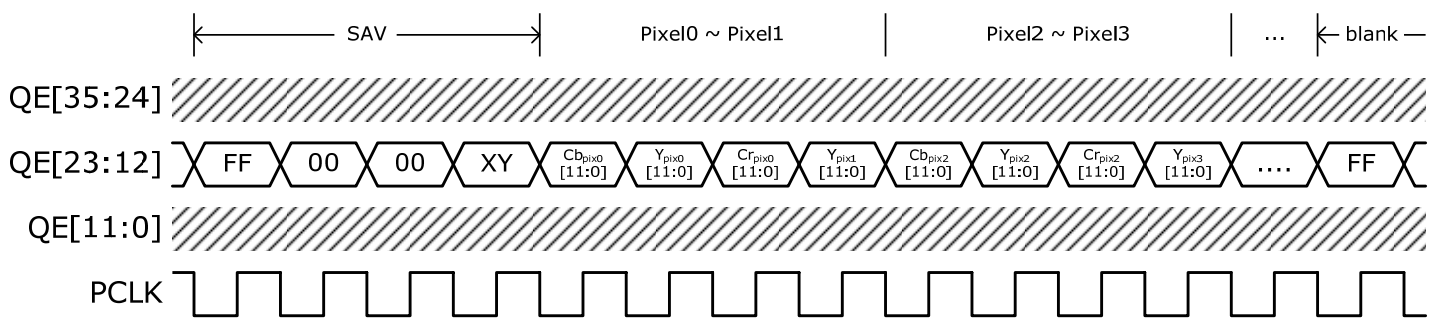
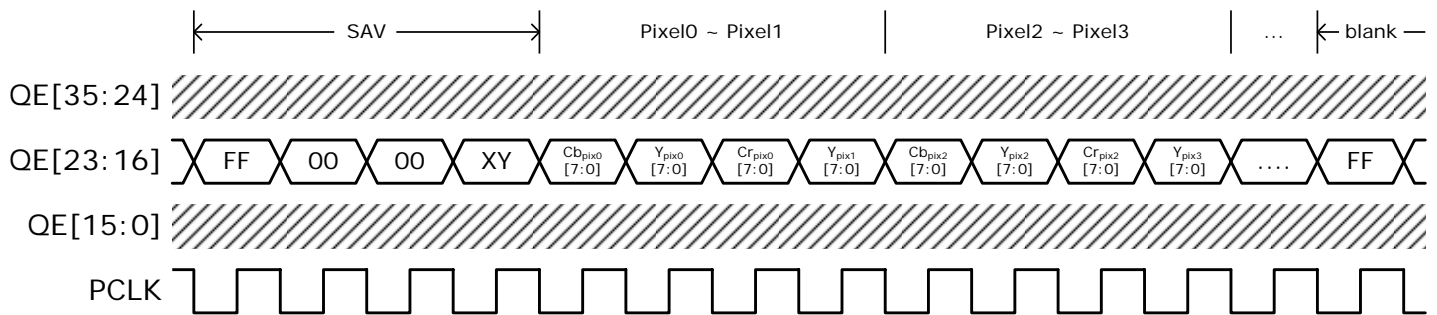

Figure 10. 12-bit CCIR-656
Figure 11. 8-bit CCIR-656
by half compared from the previous YCbCr 4:2:2 formats, to either 8-bit, 10-bit or 12-bit. To compensate for the halving of data bus, PCLK frequency is doubled. With the double-rate output clock, luminance channel (Y) and chroma channels (Cb or Cr) are alternated. The syncs signals are embedded in the Y-channel. Normally this format is used only for 480i, 480p, 576i and 576p. The IT6605 supports CCIR-656 format of up to 720p or 1080i, with the doubled-rate clock running at 148.5MHz. CCIR-656 format supports embedded syncs only. Figure 10 and Figure 11 give examples of 12-bit and 8-bit CCIR-656 respectively. Note that while "embedded syncs" implies that neither DE nor H/VSYNC are required, the IT6605 optionally output these signals via proper register setting to ease the design for some backend processors.